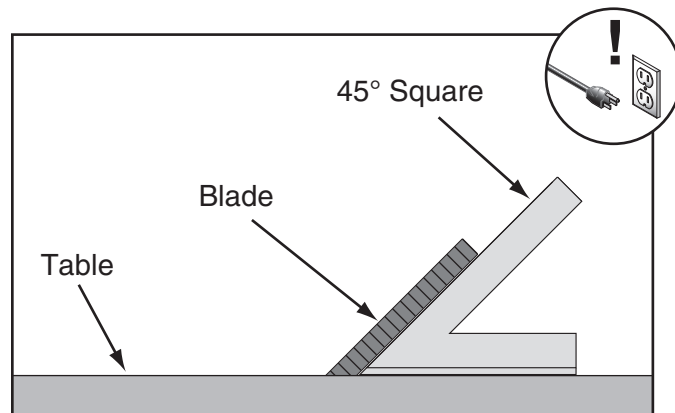

Figure 103. Checking blade at 45°.
3. Place a 45° square against table and blade so it contacts blade evenly from bottom to top, as shown in **Figure 103**. Make sure a blade tooth does not obstruct placement of square.